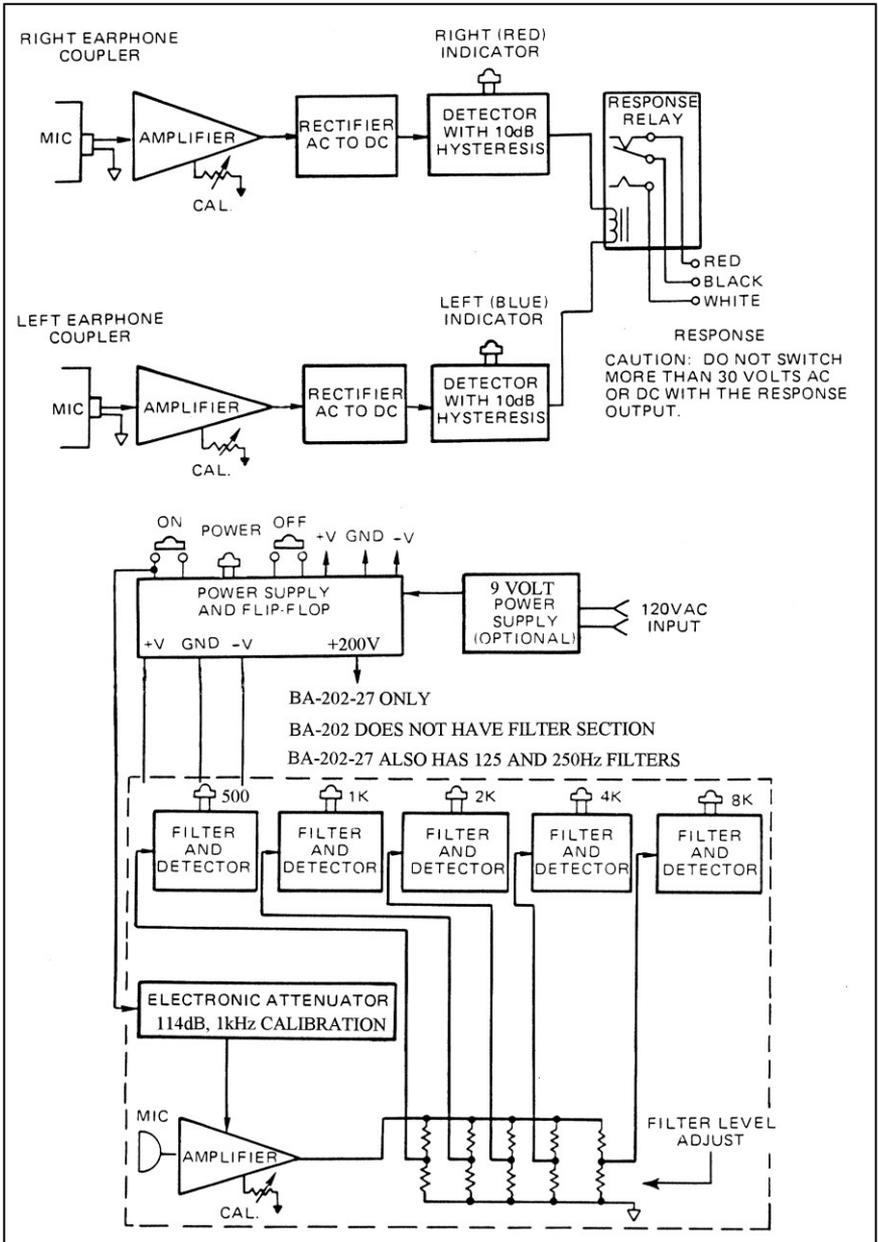

Figure 4: Block Diagram, Models BA-202, BA-202-25, & BA-202-27
**Principles of operation** The Models BA-202, BA-202-25, and BA-202-27 use two independent microphones to convert earphone signals to AC voltages. (See Figure 4) These voltages are then amplified and sent to rectifiers for AC to DC conversion. The DC voltage enters its respective detector. When sufficient signal is present at the earphone coupler, the appropriate indicator light (RIGHT or LEFT) will light and the response relay will activate. Once this occurs, the earphone signal must be decreased by at least 10 dB (hysteresis) to deactivate the indicator light and the response relay.